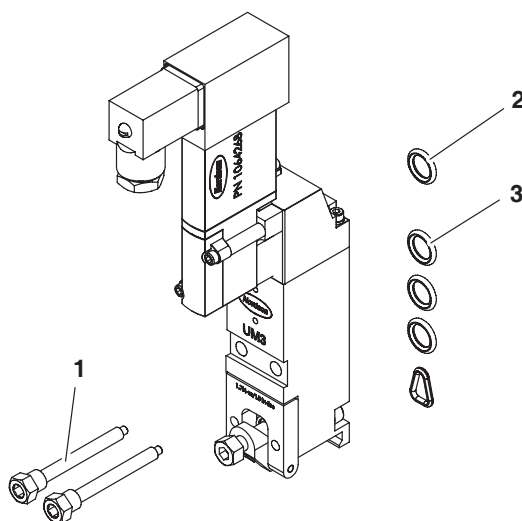

Figure 8 Replacing a module (spray module with flange-mounted solenoid valve shown)
6. See Figure 8. Remove the module mounting screws (1) and then remove the module assembly (including the flange-mounted solenoid valve, if applicable). Discard the O-rings (2, 3).